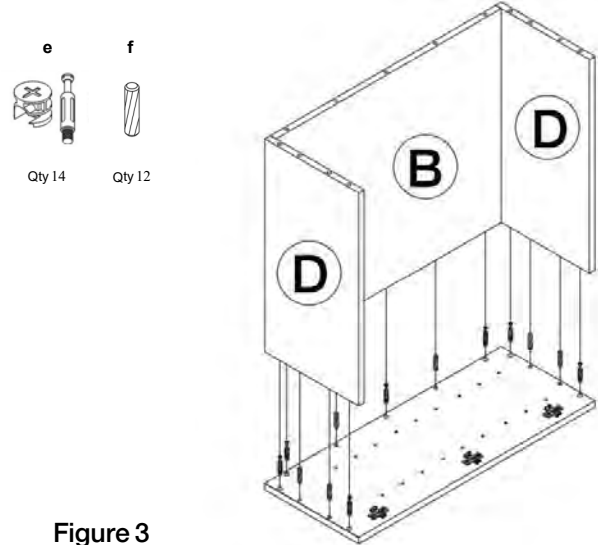

Figure 3
3. Install metal male cam locks (e) into designated holes on side panel (C) and bottom panel (D). Use screwdriver to tighten. Install the wooden dowels (f) into designated holes. (Figure 3)
4. Install the Top & Bottom panels (D) onto back panel (B). (Figure 3)
5. Install Top, Bottom, & Back Panels (D,B) onto the right side panel (C). (Figure 3)